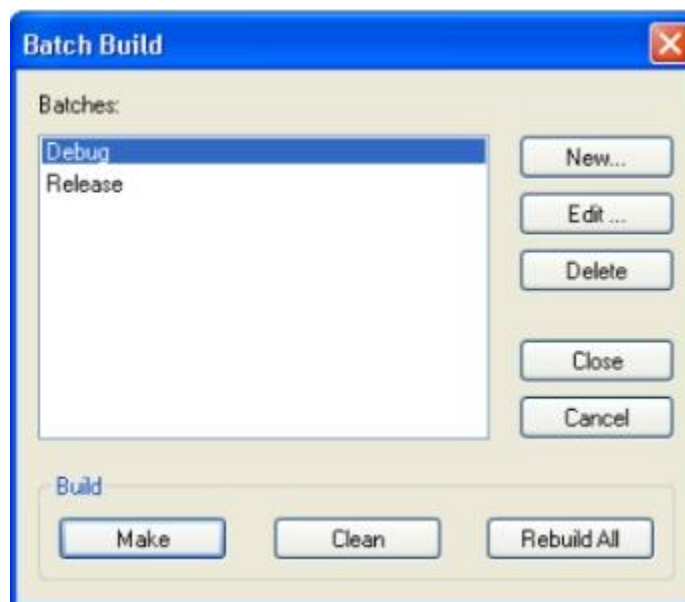

Figure 3: Batch build dialog window
4. Click the “Make” button (Figure 3) if you build the libraries for the first time. Click the “Rebuild All” button (Figure 3) if you want to rebuild the libraries.